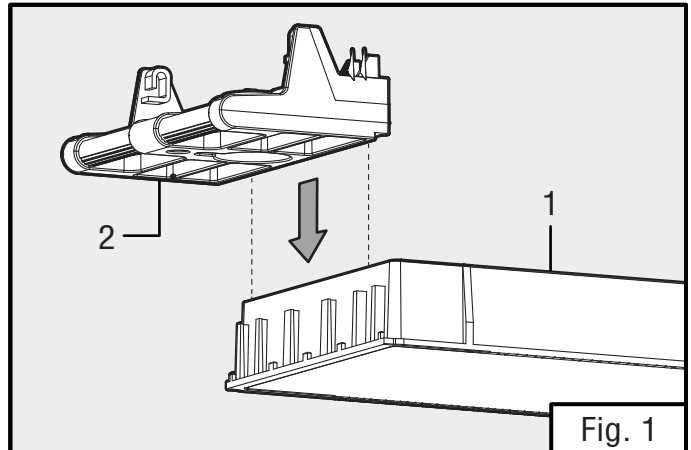

Fig. 1
1. Place the upper tray (Fig. 1 - 1) upside-down on a flat work surface.
2. Turn the push handle (Fig. 1 - 2) upside down with the cup holder towards the tray. Using a rubber mallet, tap the push handle down into the grooves on the tray. Make sure the handle is all the way on the tray.